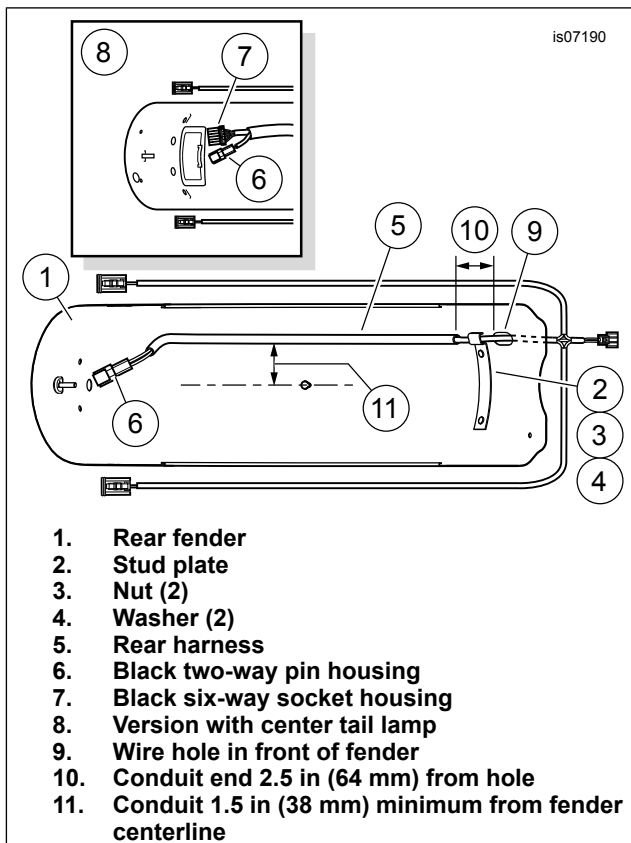

Figure 3. Install Rear Fender Harness
1. See Figure 3. Clean with a mixture of 50 percent isopropyl alcohol and 50 percent distilled water. Allow to dry completely. Do not use solvents or harsh chemicals that could damage painted surfaces.